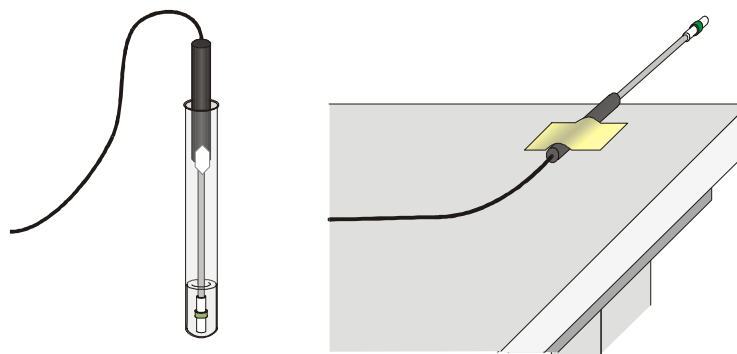

Figure 1
6. Wrap Probe 1 and Probe 2 with square pieces of filter paper secured by small rubber bands as shown in Figure 1. Roll the filter paper around the probe tip in the shape of a cylinder. Hint: First slip the rubber band on the probe, wrap the paper around the probe, and then finally slip the rubber band over the paper. The paper should be even with the probe end.
9. After the probes have been in the liquids for at least 30 seconds, tap to begin collecting temperature data. A live graph of temperature vs. time for both Probe 1 and Probe 2 is being plotted on the handheld screen. The live readings are displayed in the upper-right corner of the graph, Probe 1 first, Probe 2 below. Monitor the temperature for 15 seconds to establish the initial temperature of each liquid. Then simultaneously remove the probes from the liquids and tape them so the probe tips extend 5 cm over the edge of the table top as shown in Figure 1.